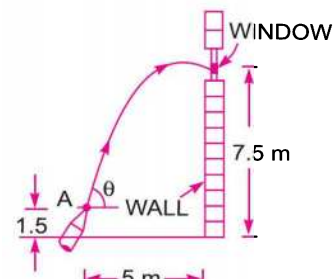

Fig. 6.32
**Problem 6.39** A fire-brigade man is holding a fire stream nozzle of 50 mm diameter as shown in Fig. 6.32. The jet issues out with a velocity of 13 m/s and strikes the window. Find the angle or angles of inclination with which the jet issues from the nozzle. What will be the amount of water falling on the window ?